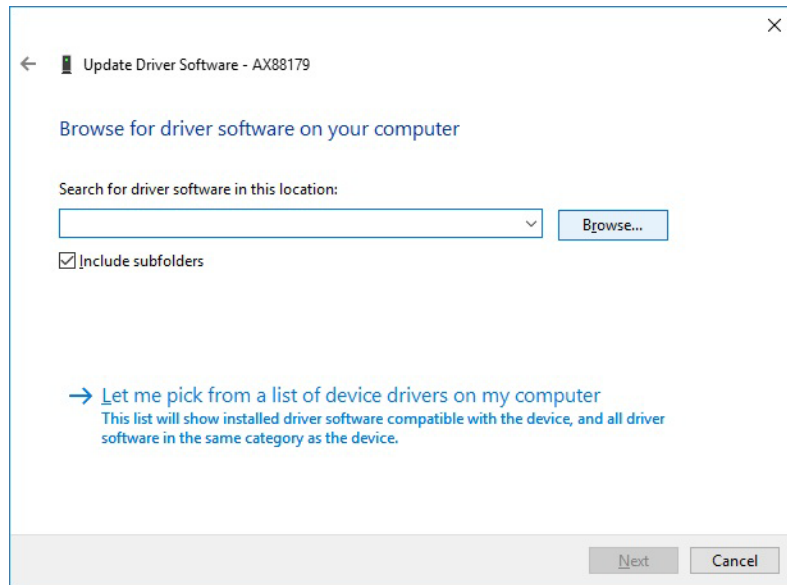

Figure 13. Browse for Driver Software Location
5. Select the second option in the Update Driver Software Window - “Browse my computer for driver software”. The Browse option is displayed. Refer to Figure 13.